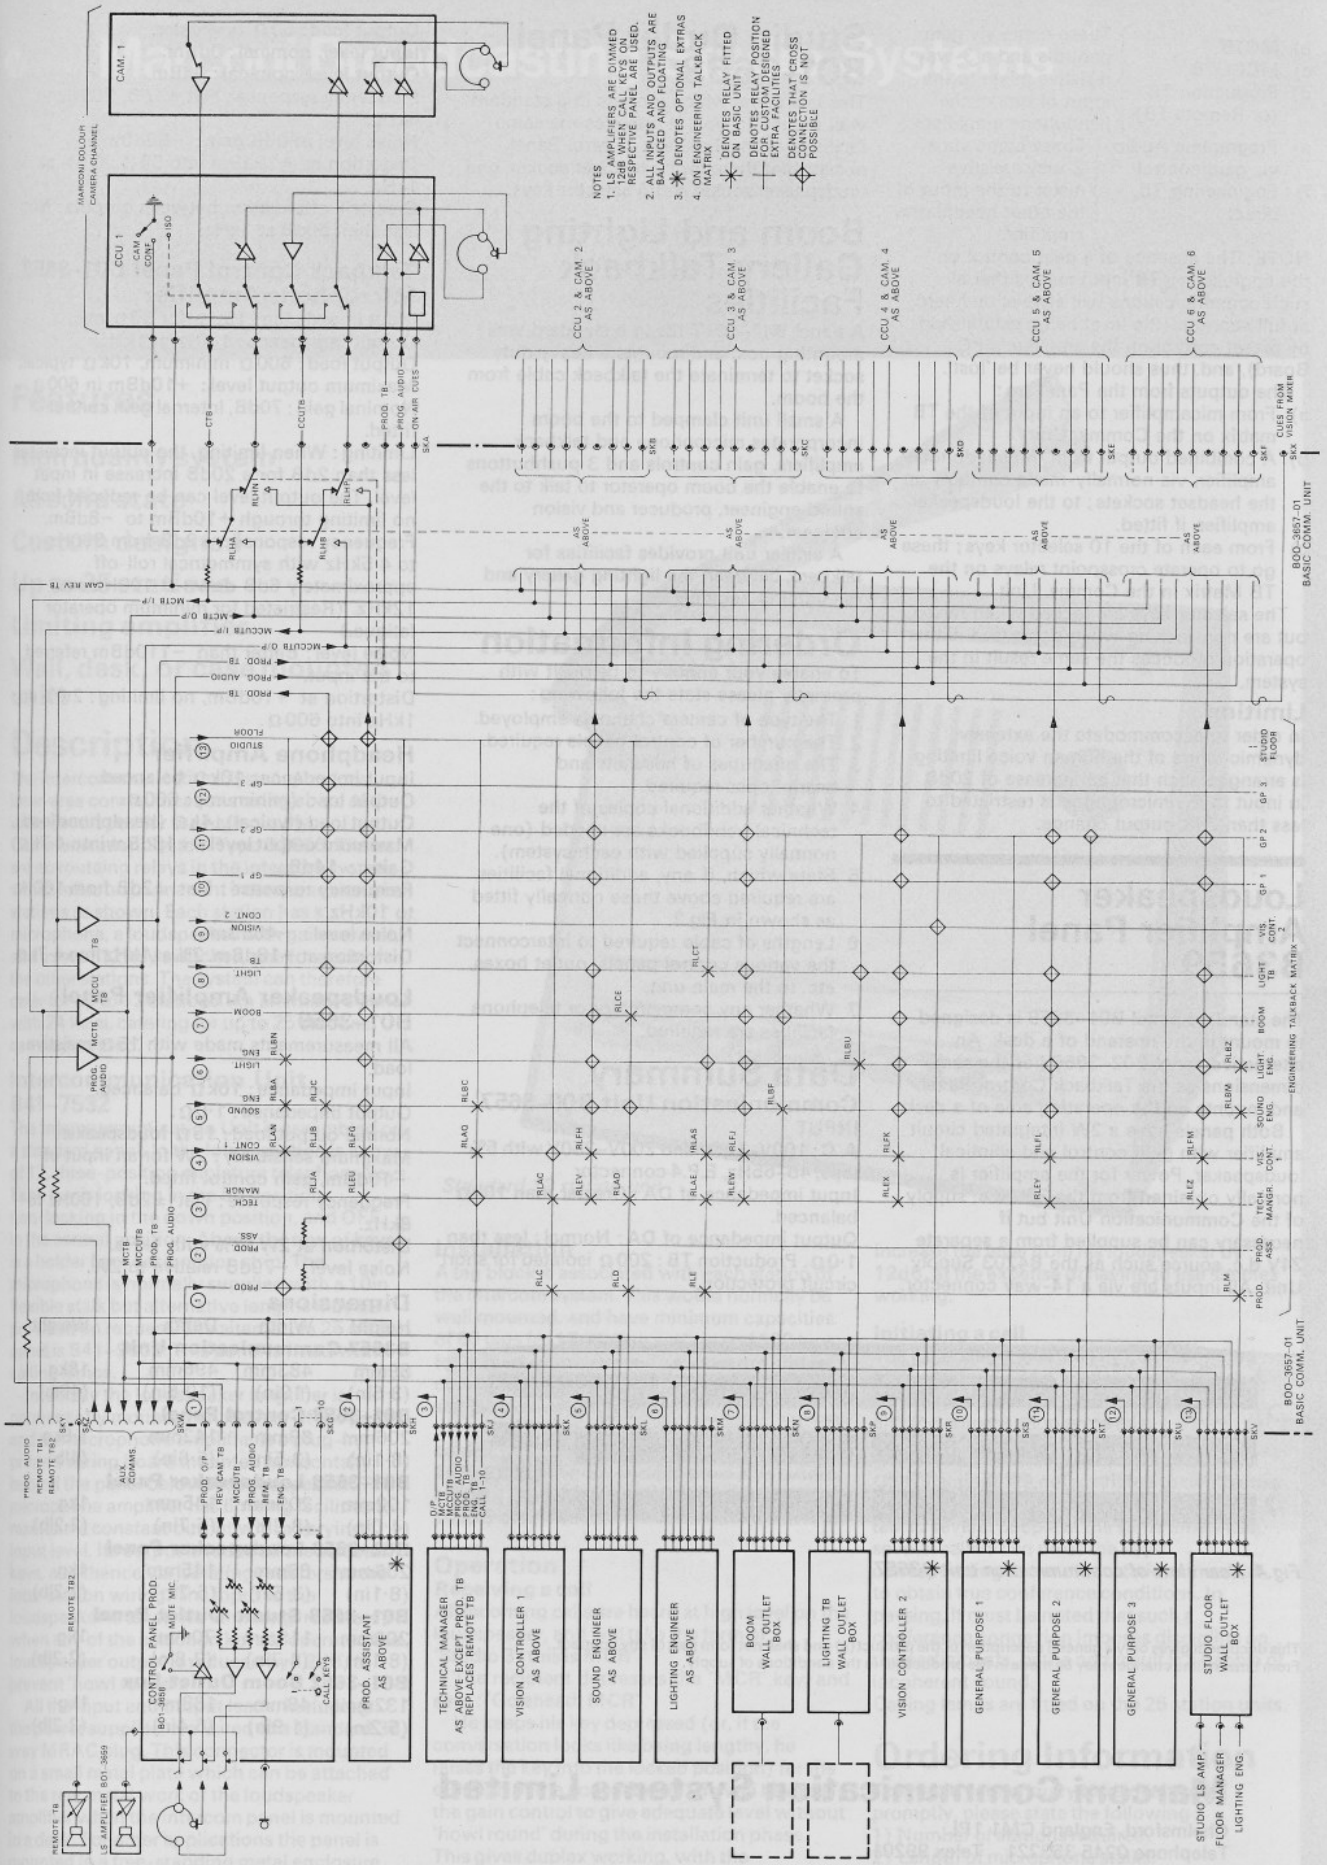

Fig.3 Facilities diagram. Communication System Type B3656
- 5 State which, if any, additional facilities are required above those normally fitted as shown in Fig.3.